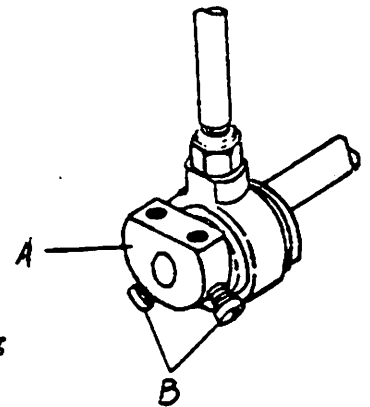

Fig 25
2. Loosen the upper shaft eccentric screw A in Fig. 25.
3. When the upper shaft eccentric B in Fig. 25 is turned to counterclockwise, the synchronization will be faster, and turned to clockwise, it will be slower.